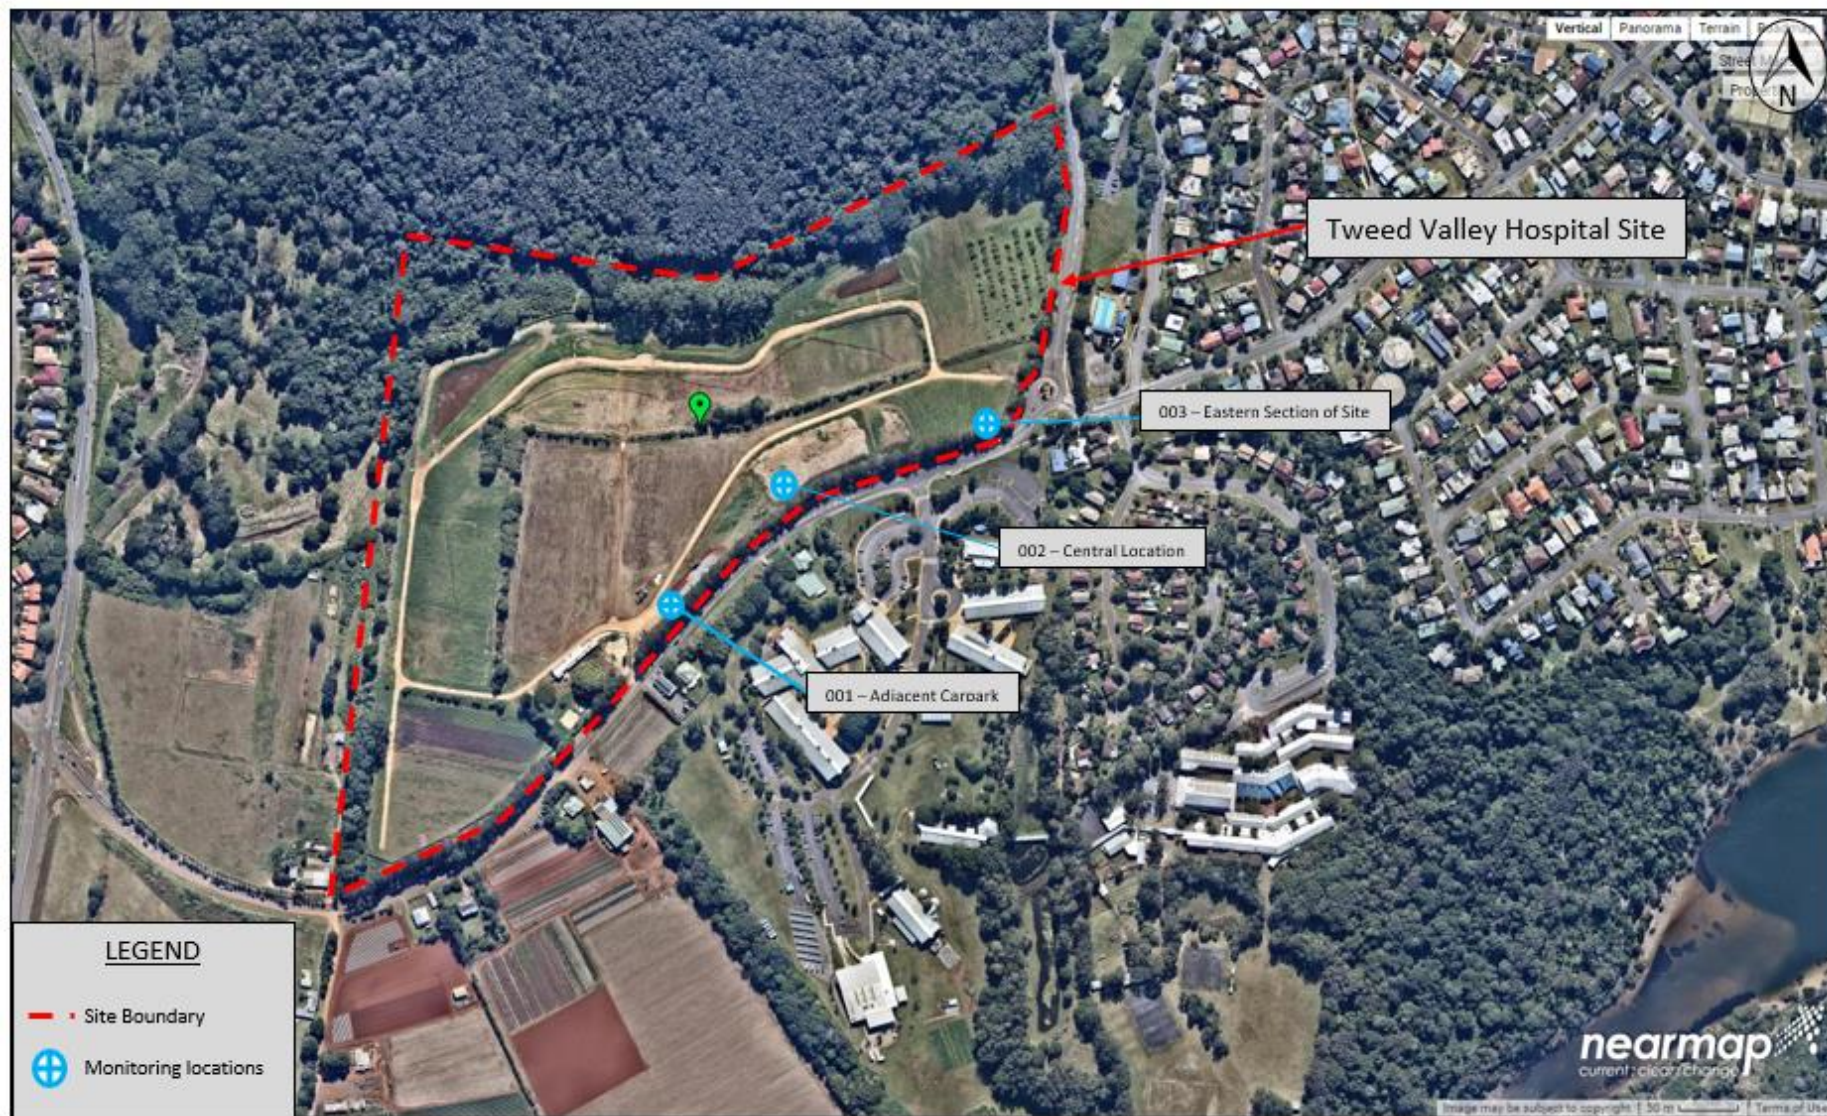

Figure 1. Aerial photograph of the site at Kingscliff NSW.
The three (3) vibration monitors are located within the confines of the site adjacent to Cudgen Road and were supplied by the client (*refer to Figure 1 – Aerial Photograph*).